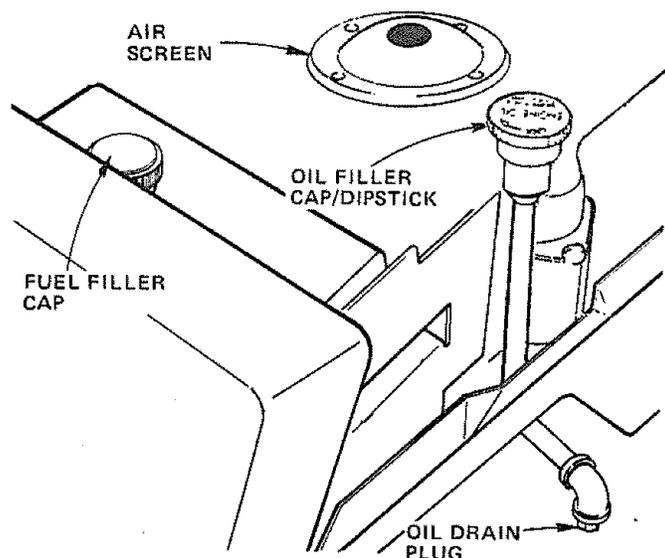

FIGURE 19
- b. Unscrew oil drain plug (Fig. 19) and remove dipstick.
Several minutes after stopping engine, check engine oil level with tractor on level ground. Wipe dipstick (Fig. 19) clean, screw it down tight for a few seconds, remove and read oil level. If necessary, add oil until "FULL" mark is reached. (See chart above). **NOTE: DO NOT OVERFILL.**